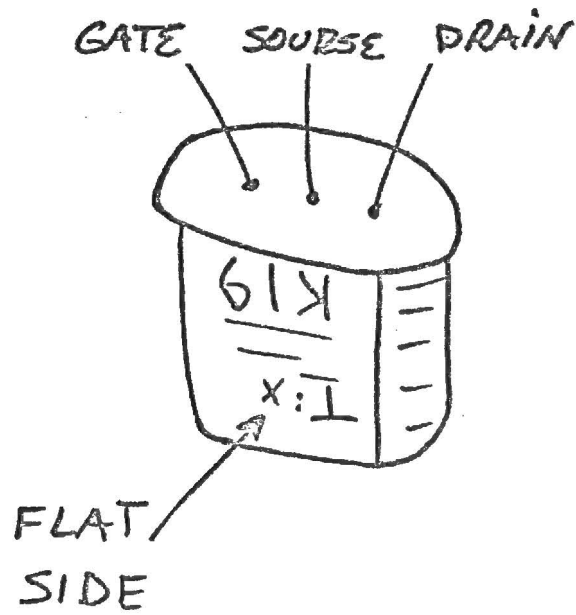

FIGURE 1
Step 2-Substitute Q102 transistor for Q103. Install F. E. T. leads as described below (See fig. 1)